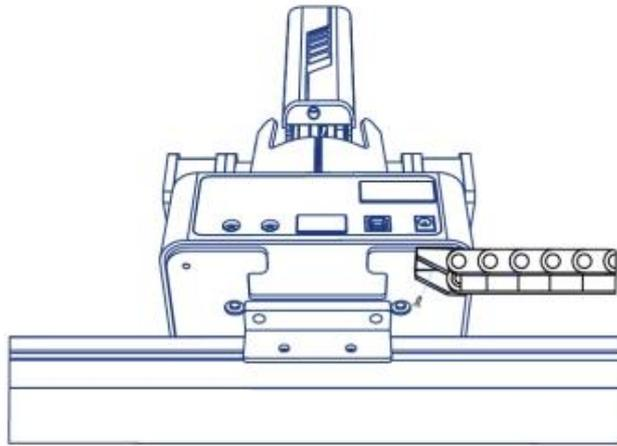

Figure 5.33 Connect to wire set
- Step 3** Connect the end of the wire set to the plate b with a M3*6 countersunk head hexagon screw, as shown in Figure 5.33.